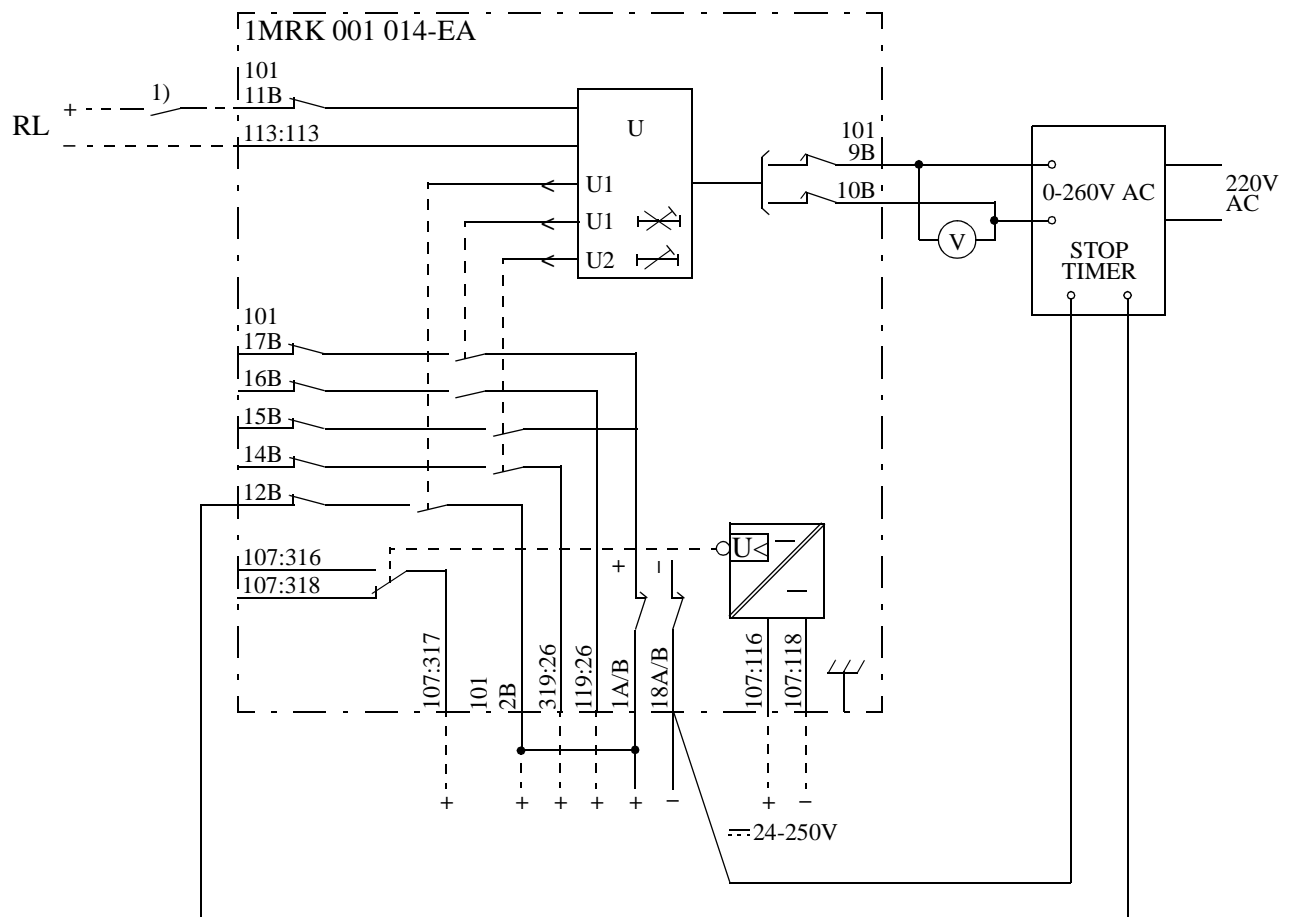

Fig. 16 Connection of test apparatus to a typical protective relay RAEDK 1.
Fig. 16 shows as an example, the connection of test set SVERKER for secondary testing of a single-phase voltage protection RAEDK, Connection Diagram 1MRK 001 014-EAA. When testing a specific protection, the actual circuit diagram, which shows the wiring between the plug-in components and their connections, should also be available.
1. Insert the test-plug handle into the test switch. Connect the test set and the voltmeter acc to Fig. 16. Auxiliary voltage shall be connected to terminals 101:1A and 101:18A. Interconnect terminals 1 and 2 on the test handle to get output voltage to test terminal 12 when the U1 start function output relay is activated.